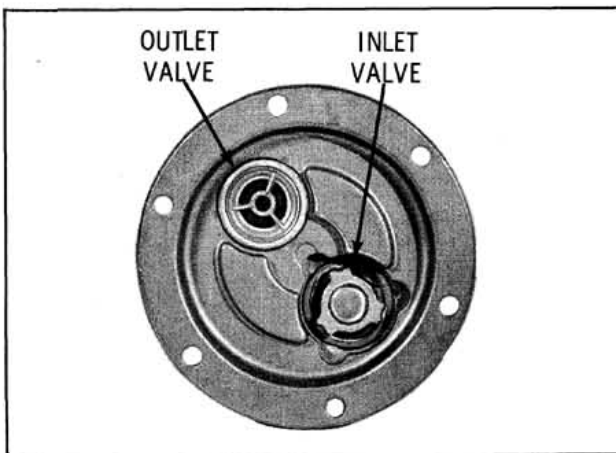

Fig. 3-136 Fuel Valves
- a. Place the inlet valve on top of the gasket with the spring cage facing out of the cover as shown in Fig. 3-136.
- b. Place the outlet valve on top of the gasket with the spring cage facing into the cover. (Fig. 3-136)